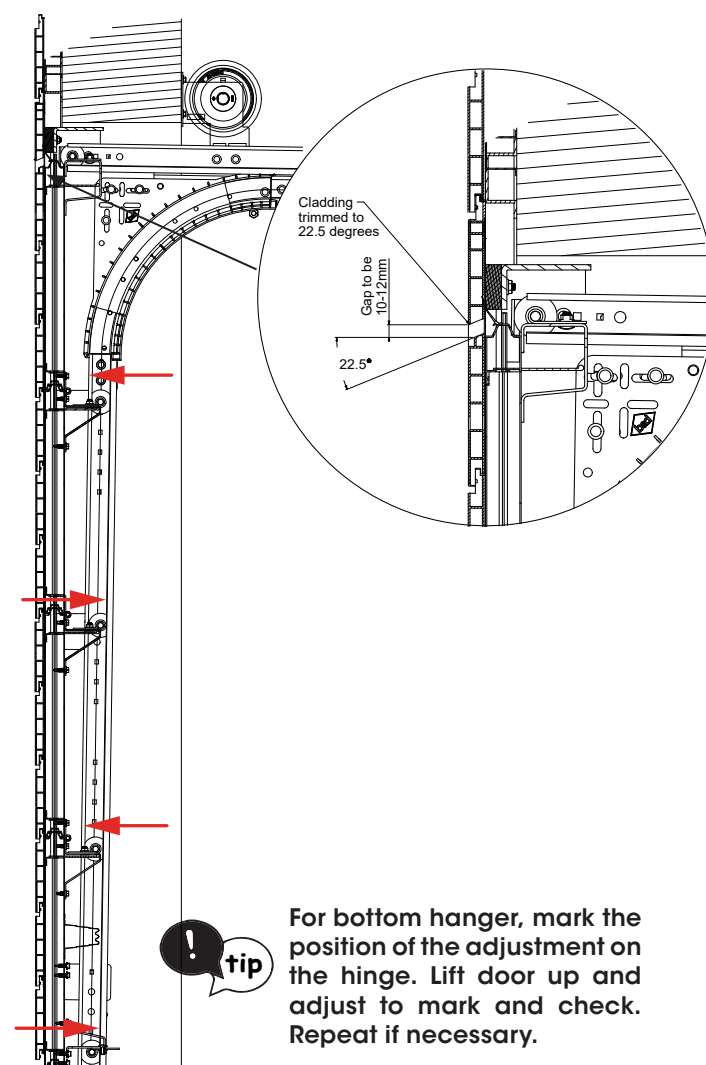

Fig: 3.8.3
- h) Start with the bottom wheel axle and adjust the hinged hanger ② so the wheel is positioned towards the back of the track as per Fig 3.8.3.
- m) Ensure there is a 10-12mm gap with a 22.5 degree angle cut between the cladding on the door and the cladding above in order to allow the top panel to run freely. (insert in Fig 3.8.3)